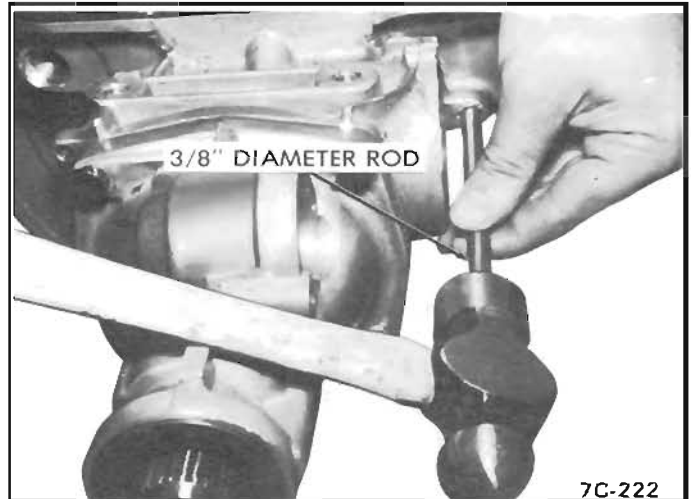

Figure 102 Retaining Plug Installation
3. Install parking pawl shaft retainer plug. Drive into case using a 3/8" diameter rod, until retainer plug is flush to .010" below face of case. Stake plug in three (3) places to retain plug in case. *See Figure 102.*